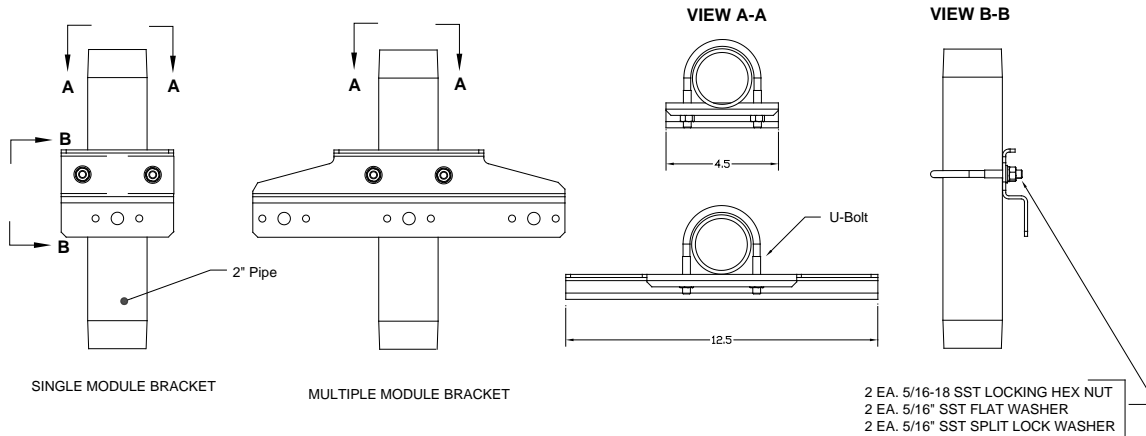
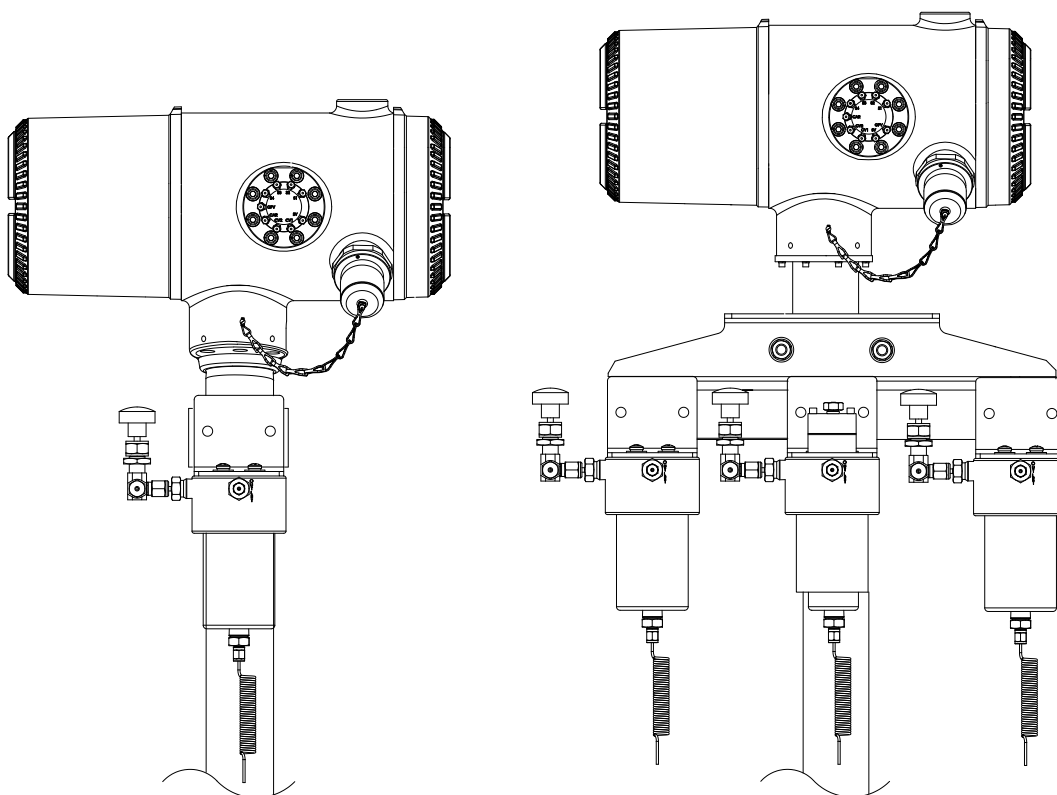

Figure 3-23 Sample System Mounting Kits
Figure 3-24 *Single and Multiple Stream Sample Conditioning Assemblies*
- Single or multiple module mounting kit (see Figure 3-23)
- Sample conditioning module(s) and hardware (see Figure 3-23 and Figure 3-24)
When installing module bracket inside of the ENC82S small environmental enclosure, mounting bracket must be installed upside down to allow for required space. Otherwise, module bracket installed inside of the ENC82L large environmental enclosure should be oriented as shown in Figure 3-24.